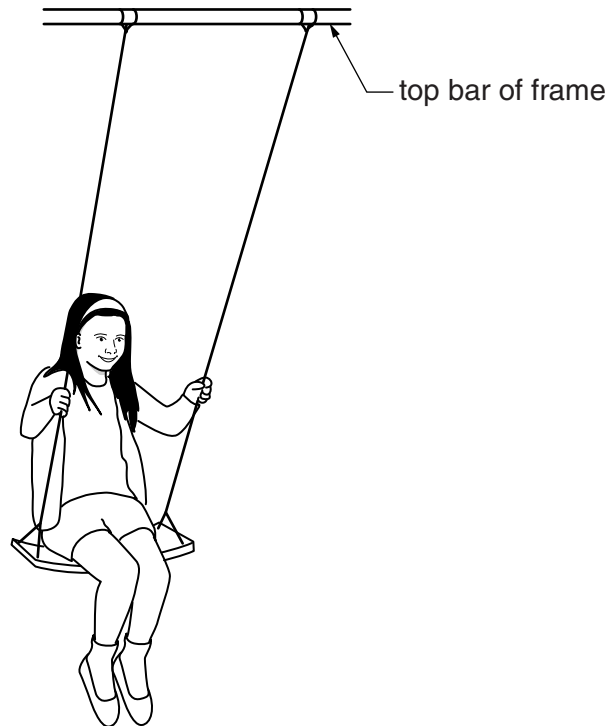

Fig. 8
- 8 Fig. 8 shows an incomplete idea for a child's swing. The frame for the swing will be 1800 mm high.